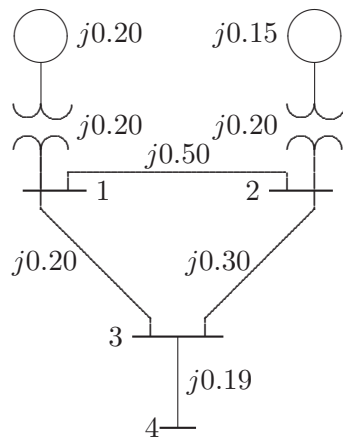

FIGURE 73
9.5. The one-line diagram of a simple four-bus power system is shown in Figure 73. Each generator is represented by an emf behind the transient reactance. All impedances are expressed in per unit on a common MVA base. All resistances and shunt capacitances are neglected. The generators are operating on no load at their rated voltage with their emfs in phase. A bolted three-phase fault occurs at bus 4.